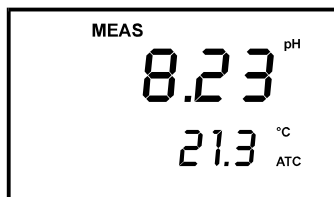

Figure 15 - Measurement mode
2. Press ON to switch on meter. The MEAS annunciator appears on the top center of the LCD. The ATC indicator appears in the lower right-hand corner to indicate Automatic Temperature Compensation (see page 15 to set Manual Temperature Compensation). See Figure 15.